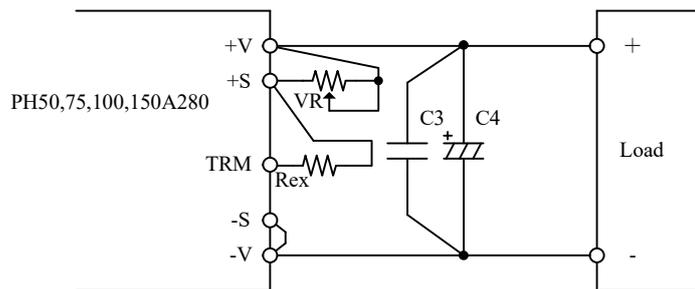

Fig.7-11 Example of Connecting External Resistor (To adjust output voltage for whole range)
Output voltage can be adjusted within specifications of output voltage adjustment range if resistance values of external resistor (R_{ex}) and external variable resistor (VR) as follows are connected like a Fig. 7-11. Take note that output voltage do not become out of specifications when output voltage is adjusted.